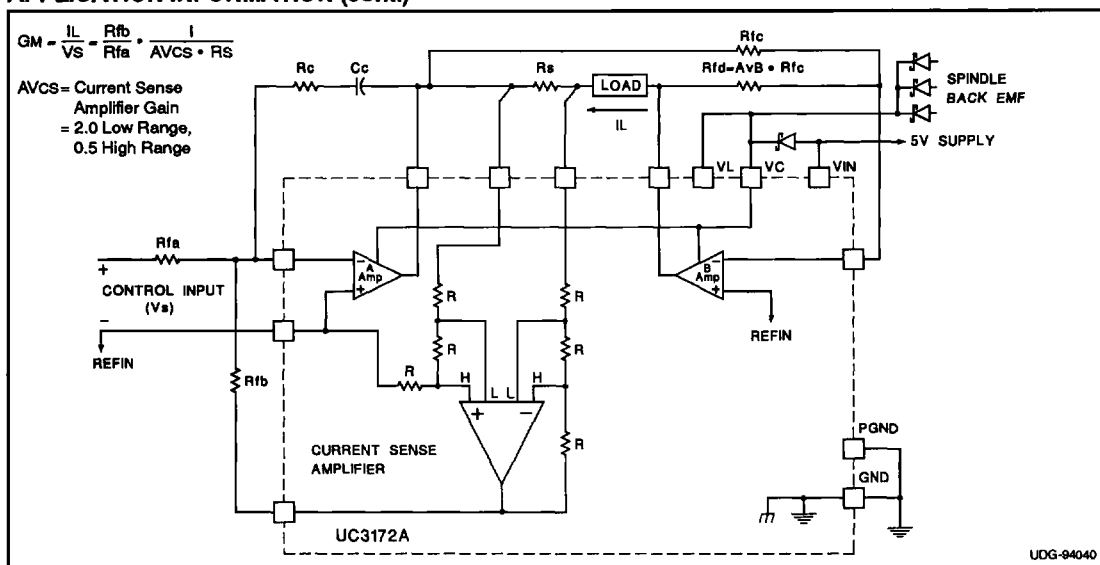

Figure 1. Typical Application
The following is a simple design flow that can be used to configure the UC3172A or UC3173A Full Bridge Power Amplifiers as shown in Figure 1.
- E. The normal configuration for compensation of the power amplifier is shown in Figure 1. A simple RC network,  $R_C C_C$ , around the A amplifier is all that is required.
In the closed loop transconductance amplifier, the A amplifier operates at the highest noise gain. Noise gain is a measure of the feedback ratio at which the amplifier is operating. For the configuration of the A amplifier in Figure 1, the noise gain is given by the impedance ratio of the RC-Cc series network, to the parallel combination of  $R_{FA}$  and  $R_{FB}$ . For the A amplifier to operate at its expected closed loop gain, the noise gain at any frequency must not exceed its Gain Bandwidth Product (GBW) divided by that frequency. Applying this to the expression above will yield a result for the maximum 3dB bandwidth that can be achieved for a given configuration.